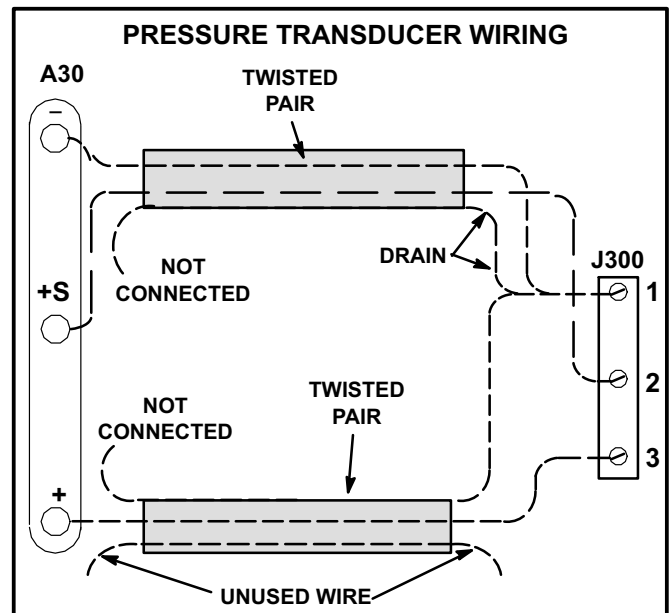

FIGURE 1
2. Two twisted pairs of shielded cable must be used to connect the pressure transducer. See figure 1. J/P300 connector is hanging in the control box.